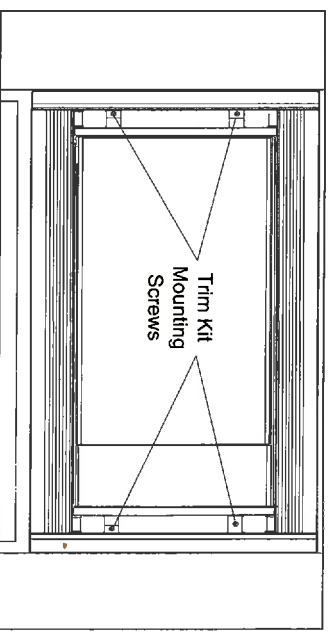

Figure 4. Trim Kit Screws
8. Secure frame assembly with mounting screws (See Figure 4).